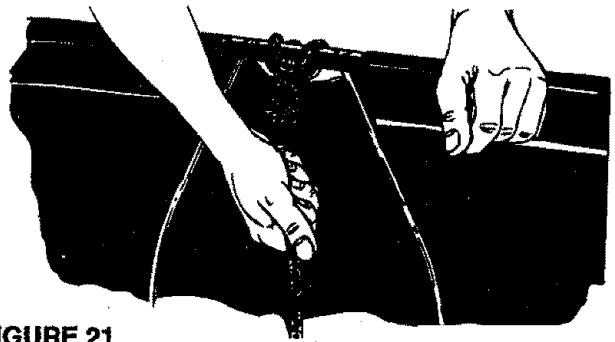

FIGURE 21
- Secure the rope to the top center of the hopper bag frame as shown in figure 21.